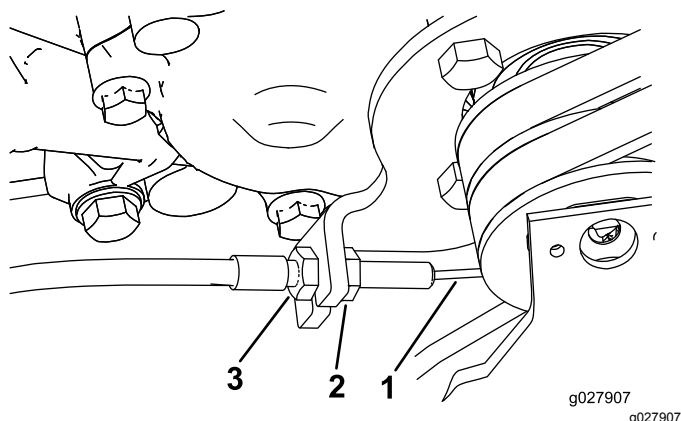

Figure 44
3. To remove slack from the traction control, loosen the front-cable jam nut and tighten the back-cable jam nut (Figure 44) until all slack is removed.